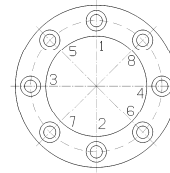

Figure 1
- 5** Tighten the screws in a crisscross sequence by using a calibrated torque wrench. Continue until you reach 50% of the torque value specified for the screws in the table (see Figure 1).